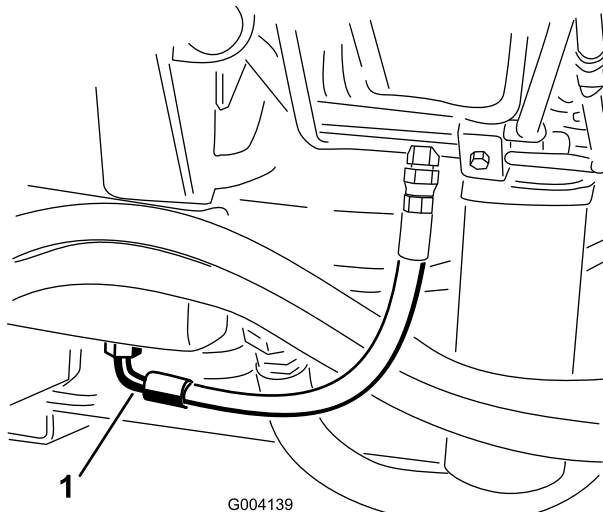

Figure 55
2. Place a large drain pan under the fitting secured to the bottom of the hydraulic fluid reservoir (Figure 55).